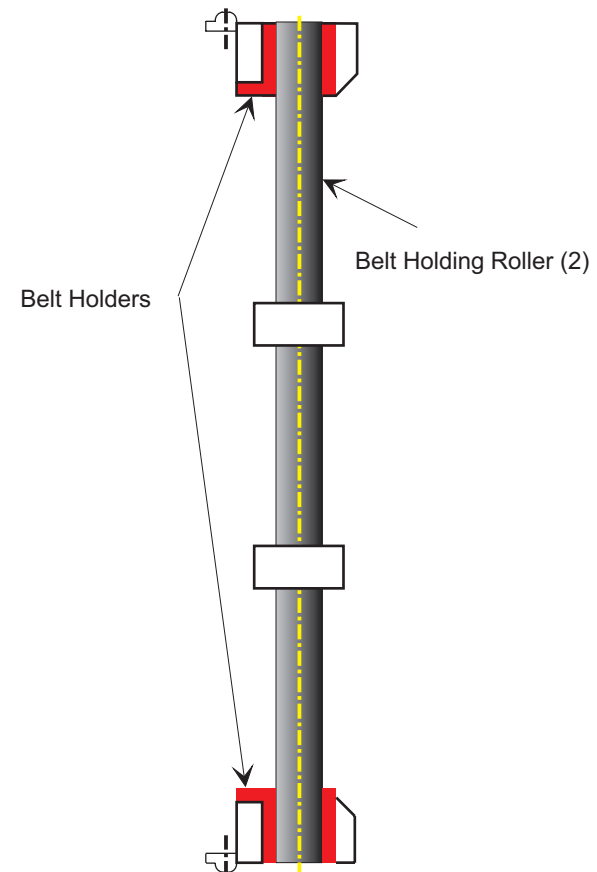

Figure 6-14. Lubricating Point (5)
Points: Sliding parts for the belt holders and the belt holding roller (2). (Colored areas in Figure 6-14)